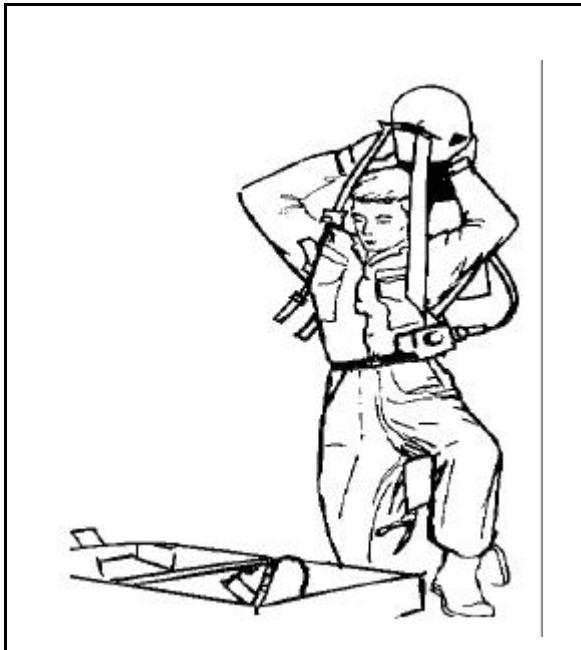

Figure 11-54. Donning the Backpack Unit,
- **Step 3.** Grasp the backpack with one hand on either side, making certain that the harness straps are resting on the backs of your hands or arms. From the crouched position, lift the unit over your head. Allow the harness to drop into position over your arms (Figure 11-54).